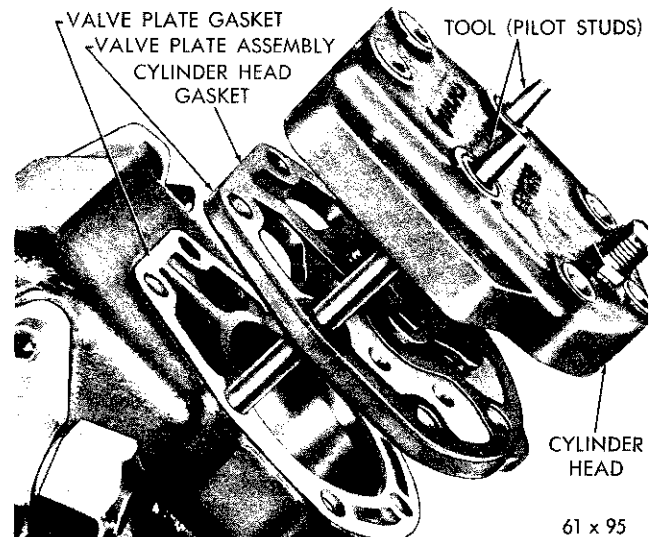

Fig. 38—Installing the Valve Plate and the Cylinder Head
(2) Dip the gaskets in clean refrigerant oil. Using the pilot studs as a guide, install the valve plate gasket, valve plate, cylinder head gasket and cylinder head, as shown in Fig. 38.
(3) Install the attaching bolts. Tighten each bolt alternately and evenly 23 to 27 foot-pounds torque.